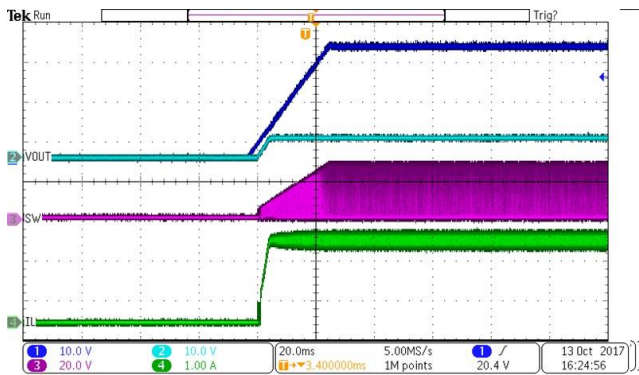

Figure 17. Power Up
The SCT2320 features external programmable output voltage by using a resistor divider network  $R_1$  and  $R_2$  as shown in the typical application circuit Figure17. Use equation (11) to calculate the resistor divider values.